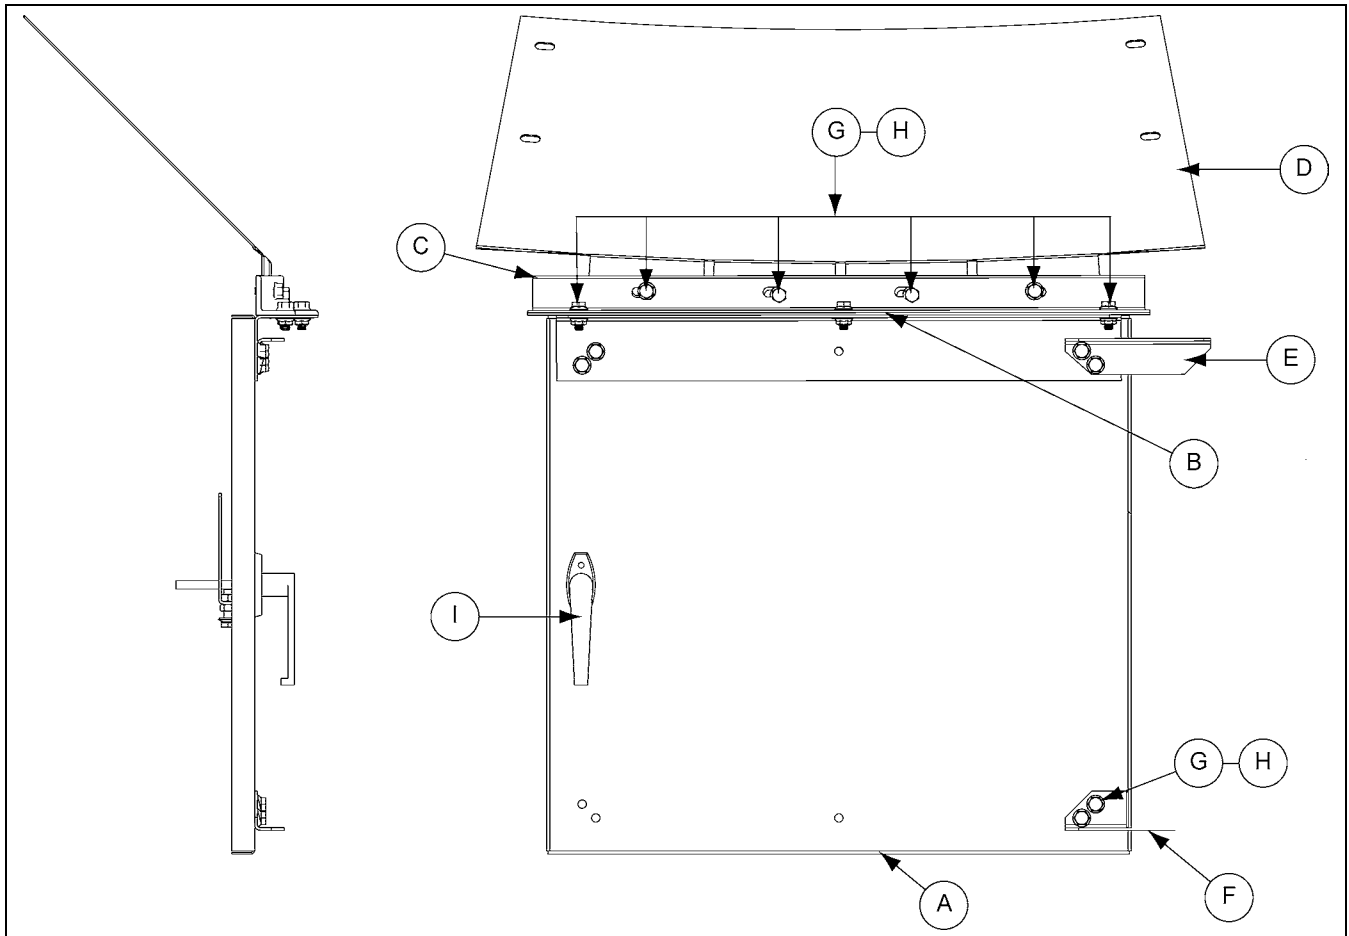

Figure 2A
1. Assemble the baffle connector (B) and the top hinge (E) to the access door (A) using bolt (G) and nut (H).
2. Attach the bottom hinge (F) to the access door (A) using bolt (G) and nut (H).
3. Attach the latch assembly (I) to the access door (A).
4. Attach the baffle (D) to the top angle (C) using bolt (G) and nut (H). *(See Figure 2A.)*